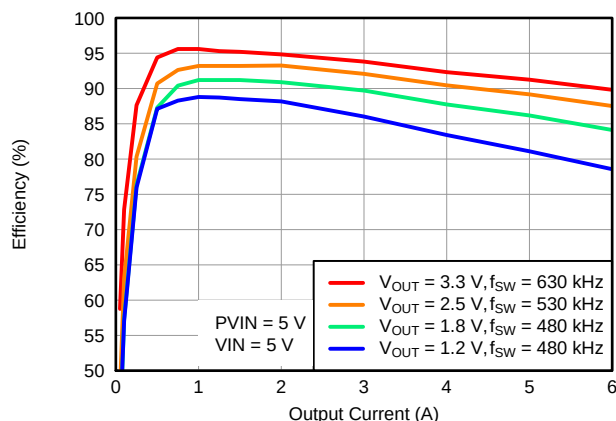
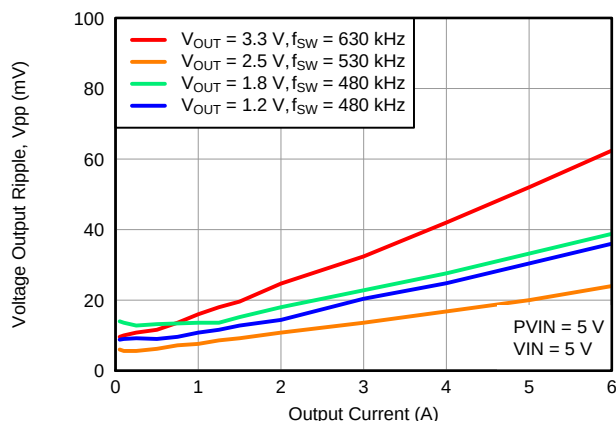
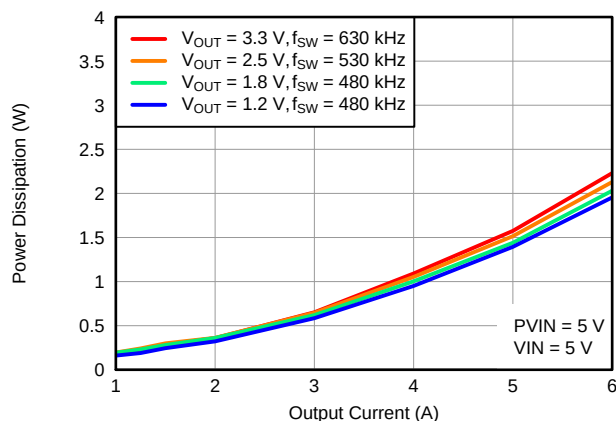

Figure 6. Efficiency vs. Output Current
Figure 7. Voltage Output Ripple vs. Output Current
Figure 8. Power Dissipation vs. Output Current
- (1) The electrical characteristic data has been developed from actual products tested at 25°C. This data is considered typical for the converter. Applies to Figure 6, Figure 7, and Figure 8.